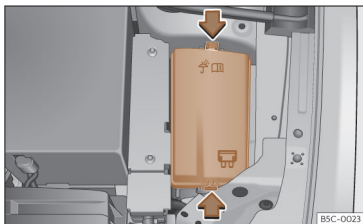

Fig. 212 In the engine compartment: lid of the fuse box.
- Press the locking tabs to unlock the fuse box cover >>> **Fig. 212**.